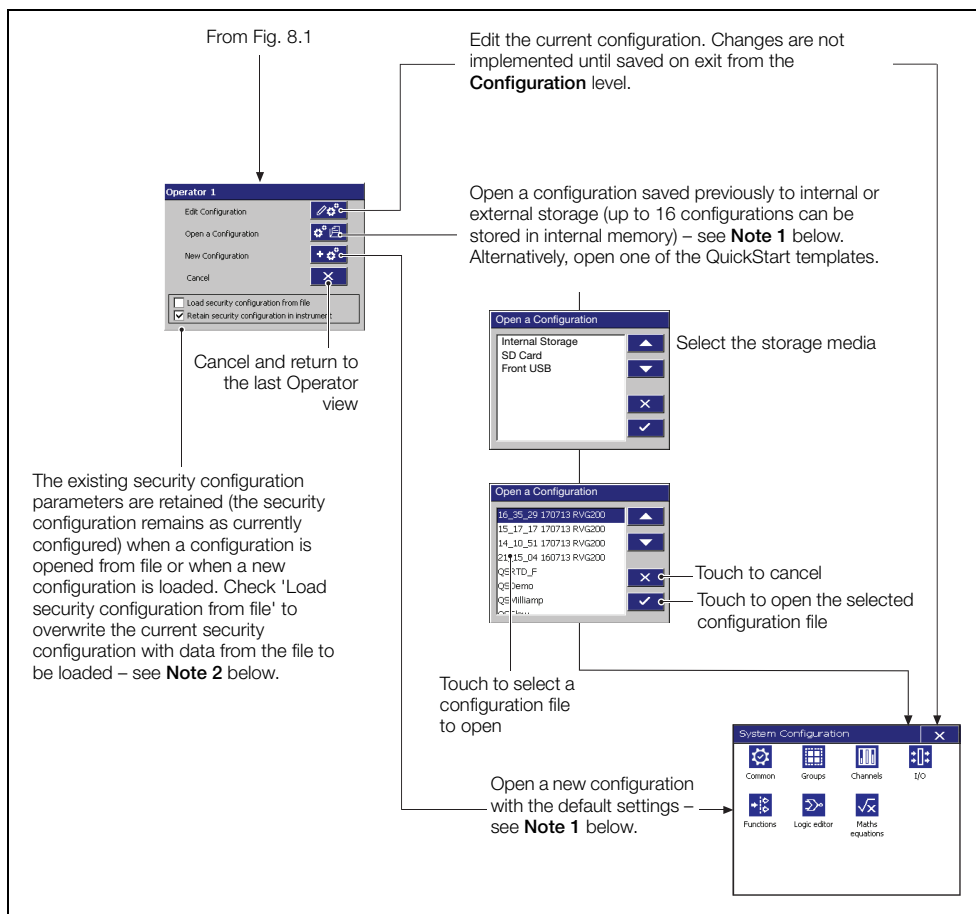

Fig. 8.2 Accessing the configuration level (continued)
2. Open the saved configuration – see see Fig. 8.2, page 63.